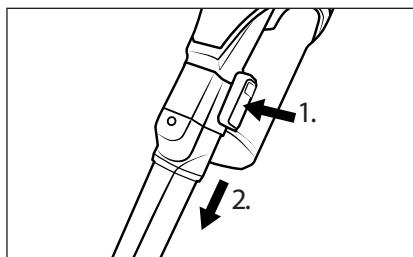

Fig. 15
- ◆ To remove the accessory, press and hold the release button on the accessory, then pull the accessory off the suction pipe ③ or the suction opening of the appliance (see Fig. 15).